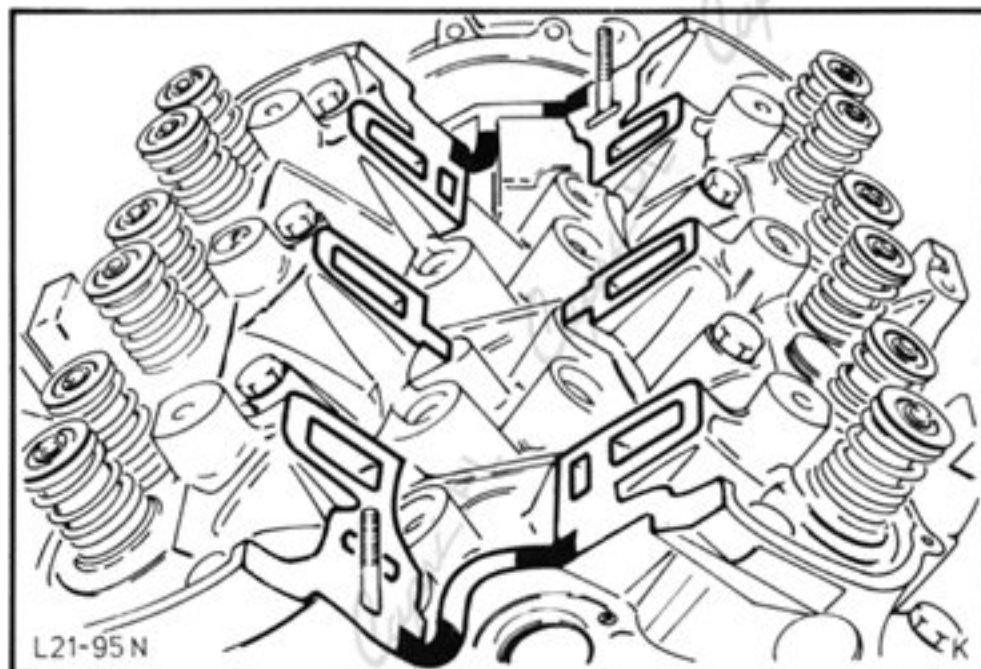

Fig.91. Apply sealing compound to joint faces.
19. Apply sealing compound to the four sealing faces of the cylinder block, cylinder heads and inlet manifold, Fig.91, and fit new inlet manifold gasket.